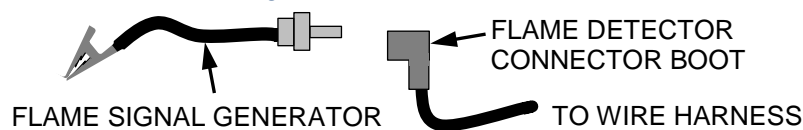

Figure 5-7: Connecting the Flame Signal Generator
- b) Push the **BACK** button three (3) times to return to the upper level menu.
- c) When the Controller gets into the ignition phase, the C-More Controller will show **IGNITION TRIAL**. At that point attach the alligator clip (see Figure 5-7) to any bare metal surface or ground. The C-More Controller display should now show **FLAME PROVEN** and begin to ramp up to 100% fire rate. Note that no gas or flame is present in the boiler at this time.